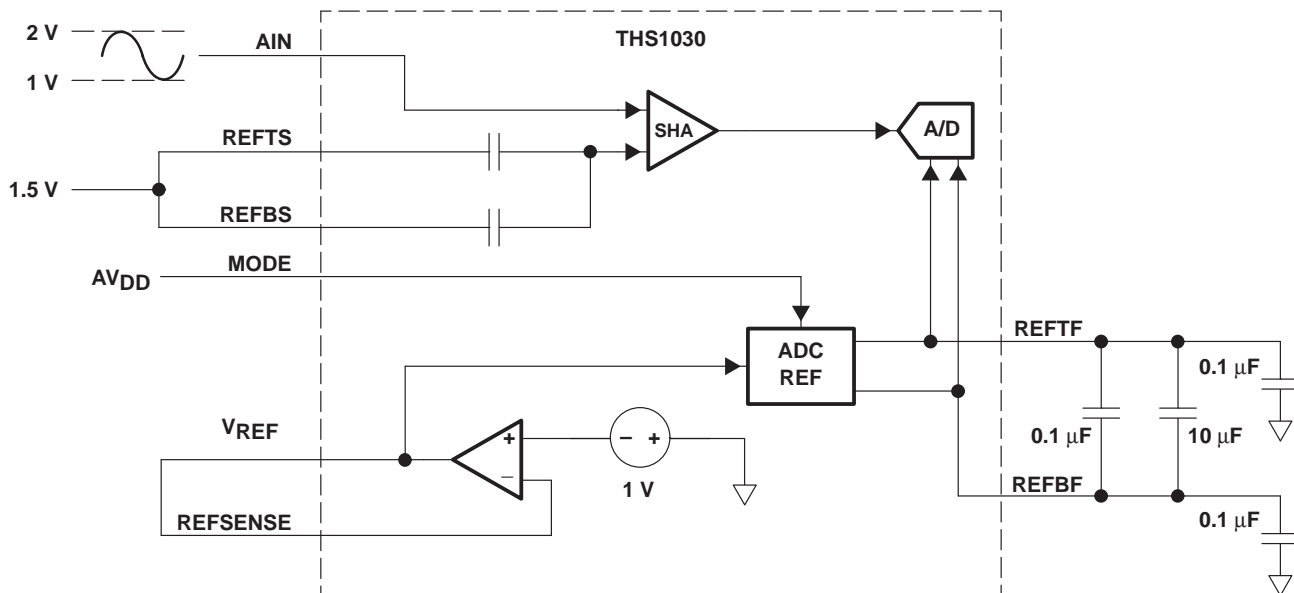

Figure 16. External Input Common Mode
- Internal ADC Reference Mode With External Input Common Mode:** The input common mode is supplied to pins REFTS and REFBS while connected together. The input signal should be centered around this common mode with peak-to-peak input equal to the voltage on the V_{REF} pin. Input can be either dc-coupled or ac-coupled to the same common mode voltage (see Figure 16) or any other voltage within the input voltage range.